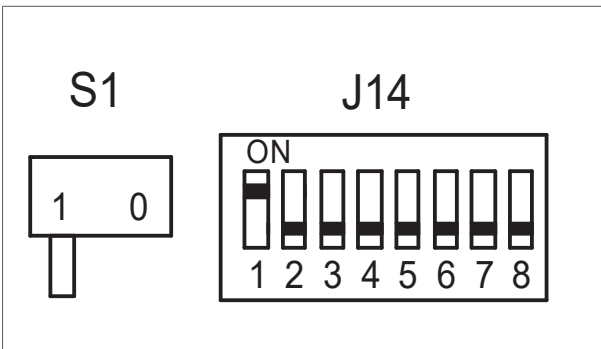

Figure 6 - Positions of the S1 and J14 switches
2. Set the S1 and J14 switches on the control unit as follows (figure 6/7):